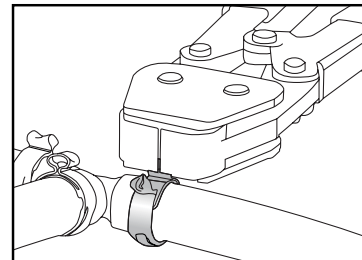

Fig. 19: Cut and remove clamp
3. Cut through and remove clamp (Fig. 19)